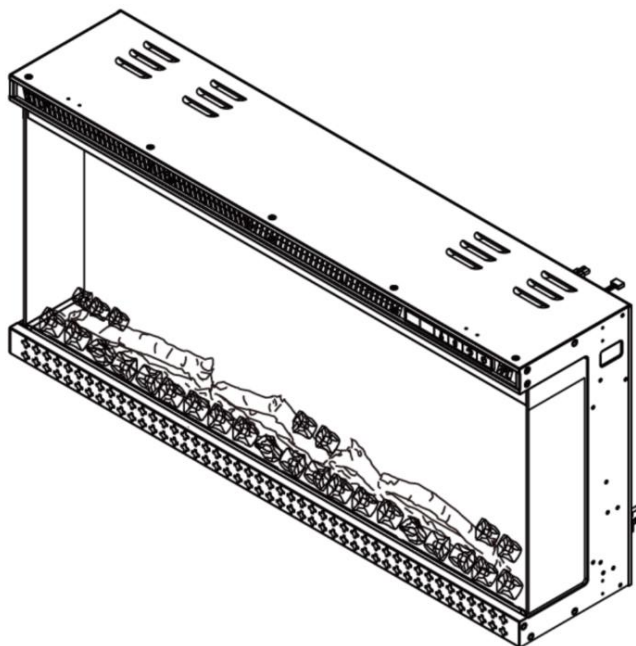

Fig6
6.Rendering of decorative crystals and faux firewood, see Fig6